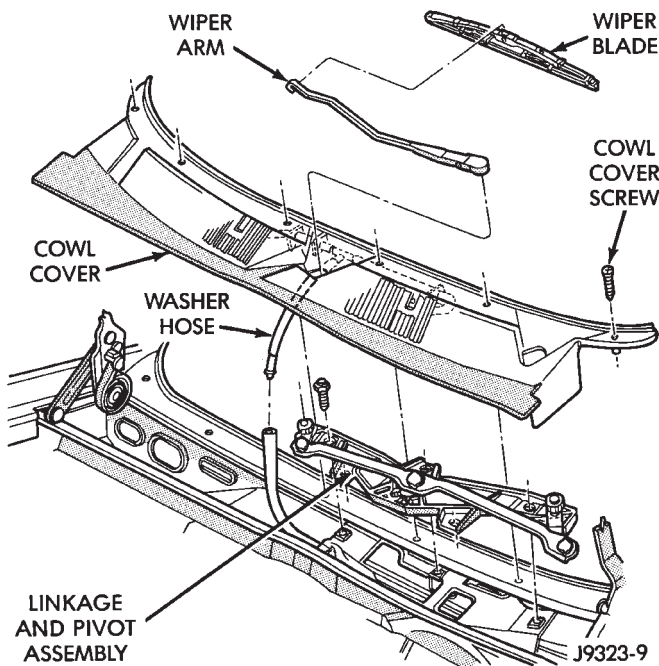

Fig. 6 Cowl Grille Components
- (1) Remove wiper arms. Refer to Group 8K, Wiper and Washer Systems for Removal/Installation procedures.
- (2) Remove screws that attach grille to cowl (Fig. 6).
- (3) Remove windshield washer tubes from nozzles.
- (4) Remove cowl grille and screen from cowl.